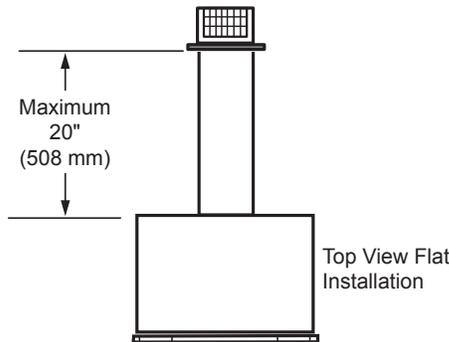

Figure 19 - Rear Vent Application Maximum Horizontal Distance
- The maximum horizontal distance between the rear of the appliance and the termination is 20" (508 mm). *Figure 19*